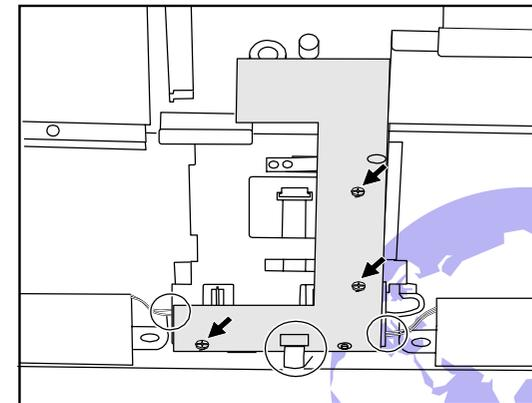

Figure 5-29. Removing the Battery/Touchpad Board
7. After removing the base frame, you will see the battery/touchpad board in between the speakers. To remove the board, first remove three screws and unplug three cables(Refer to Figure 5-29.), then lift it free from the system board.
1. Fit the battery/touchpad board into place. Plug three cables and secure the board with three screws. (Refer to Figure 5-29.)